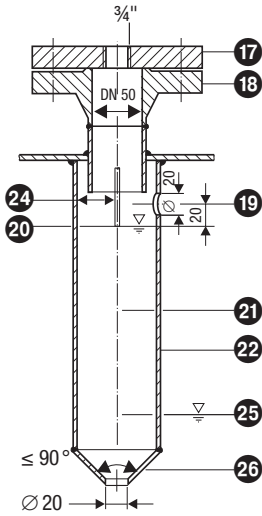
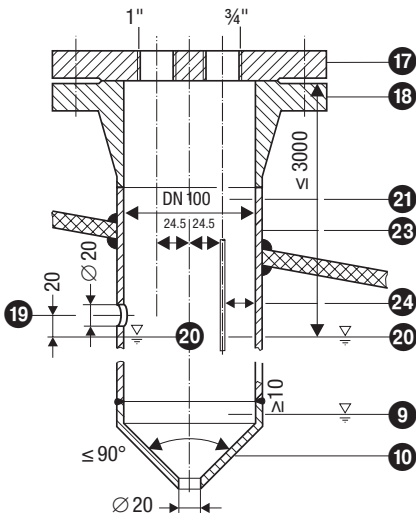
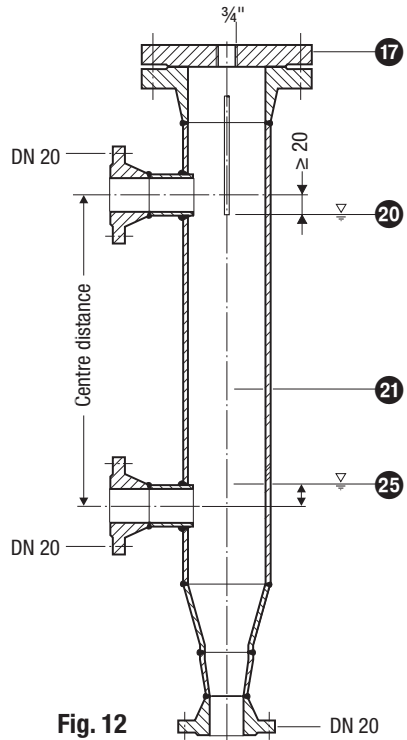

Fig. 10
Fig. 11
Fig. 12
- Observe min. spacing when installing the electrode, Fig. 6, Fig. 10, Fig. 11, Fig. 12